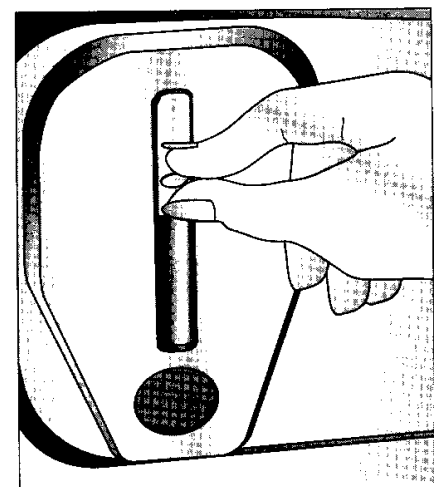

Figure 3
- 8) Move the slide indicator to the level of the liquid in the sight glass (figure 3). For your next load of laundry, just press and hold the "PUSH" button until the detergent moves down to the slide indicator to dispense detergent directly into the tub.